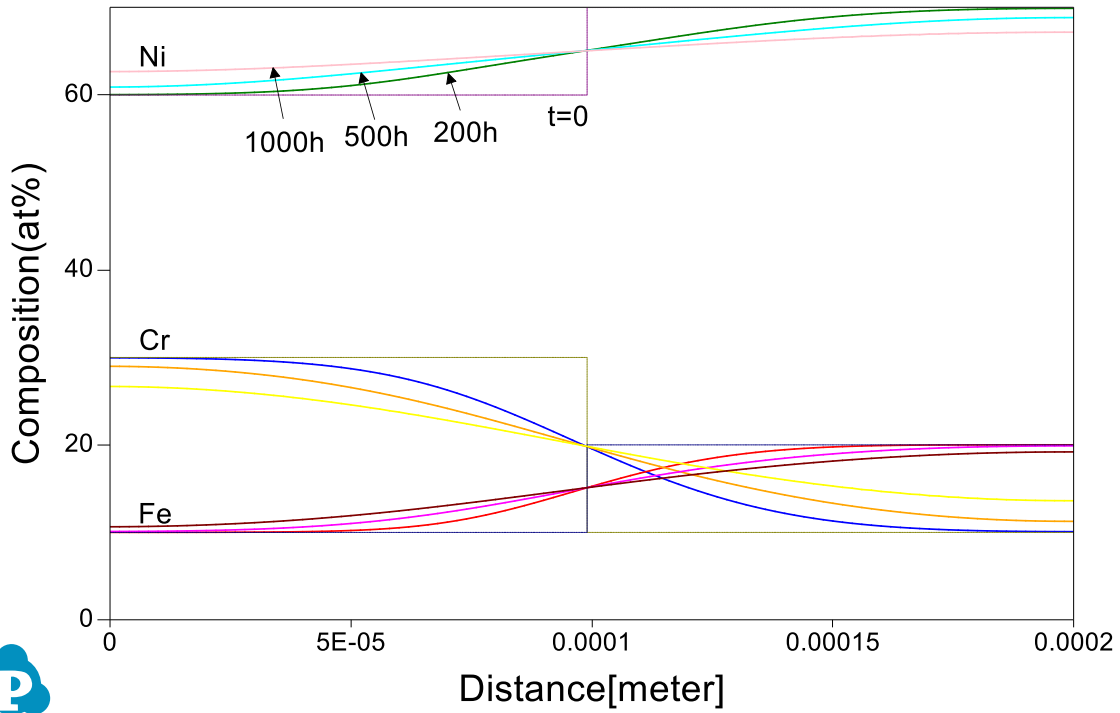

Figure 4.1.2: Calculated composition profiles after diffusion for 200, 500 and 1000 hours, respectively
- The calculated plot is shown in Figure 4.1.2. Add text and change graph appearance following the procedure in Pandat User’s Guide 2.3.1;